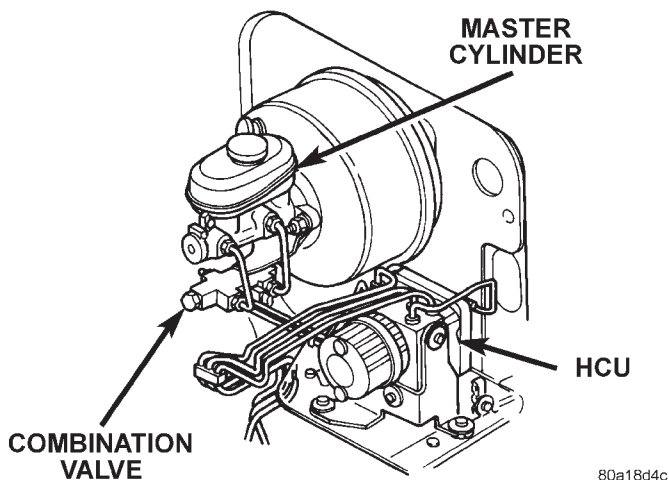

Fig. 7 HCU Brake Lines
- (1) Disconnect and isolate the negative battery terminal.
- (2) Disconnect the HCU harness connectors.
- (3) Remove all the brake lines from the HCU (Fig. 7).